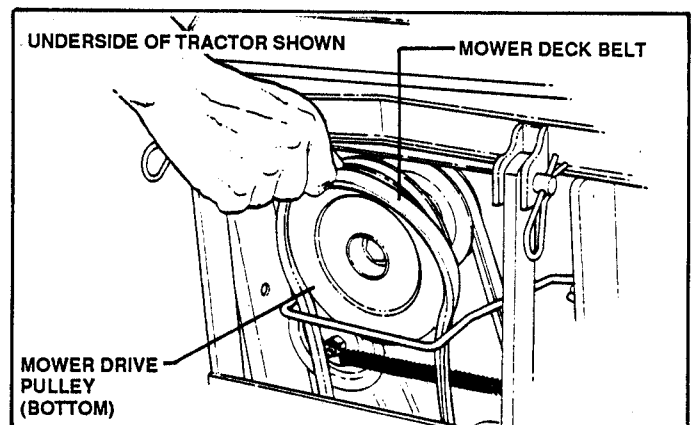

FIGURE 34
5. Remove MOWER DECK BELT from bottom pulley of engine. See Figure 34.